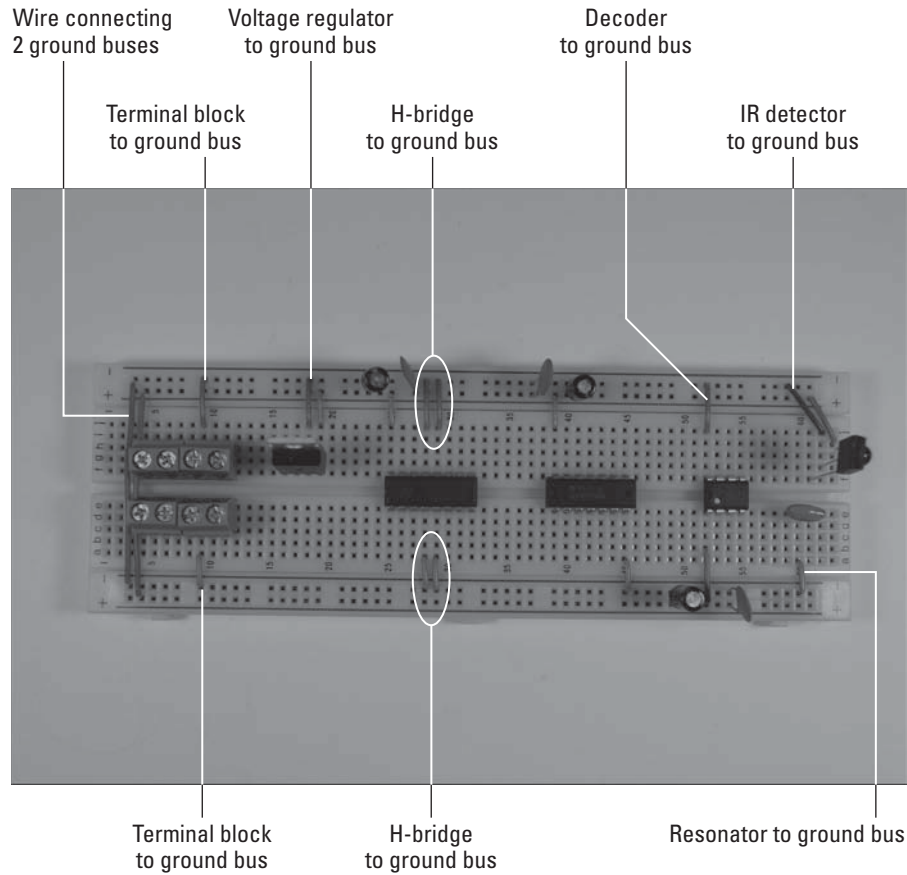

Figure 11-29:
6. Insert wires to connect each component and terminal to the ground bus (marked with a - on this breadboard) and insert a wire to connect the two ground buses, as shown in Figure 11-29.